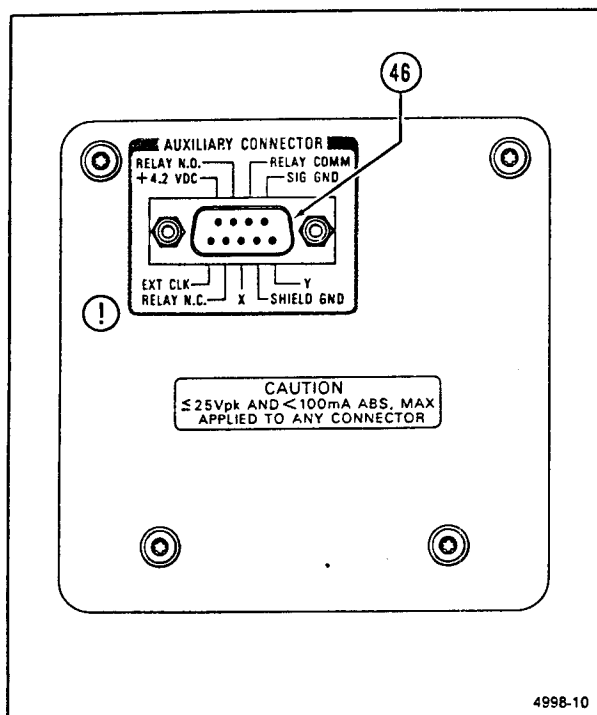

Figure 2-10. Side Panel.
The standard side panel includes one AUXILIARY CONNECTOR. Refer to Figure 2-10 for the location of item 46.
- ④6 **AUXILIARY CONNECTOR**—Provides connections for an X-Y Plotter and an External Clock input (see Table 2-4).